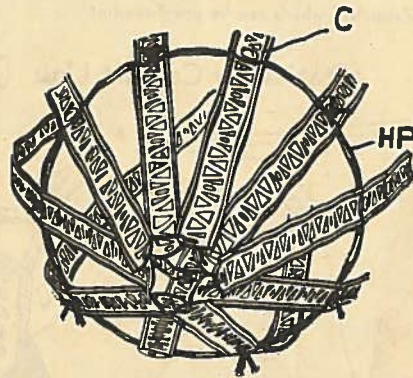
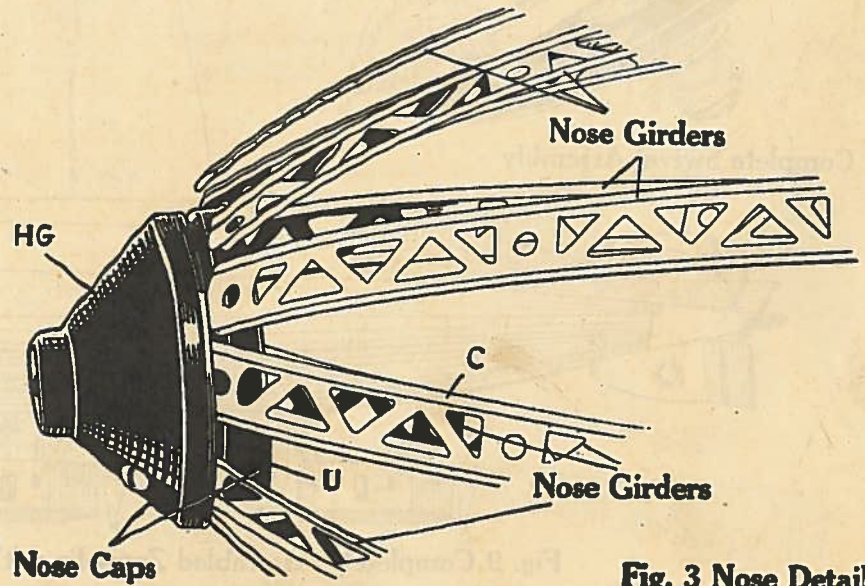

Fig. 4 Detail End View
Fig. 3 Nose Detail.
**FRAME** Assemble girders and angles as in Figure 2, using small holes in angles when fastening them to the frame—bend nose girders (Fig. 3) so that ends fit between nose caps. Fasten nose caps together with bolts and nuts through side holes. Insert Zeppelin support rod and fasten in place with collar (Fig. 2). Also see Fig. 2A. Now fasten tail girders together with a piece of ordinary string (Fig. 4). Tie ring HP to inside of girders with four pieces of string. See Fig. 2.